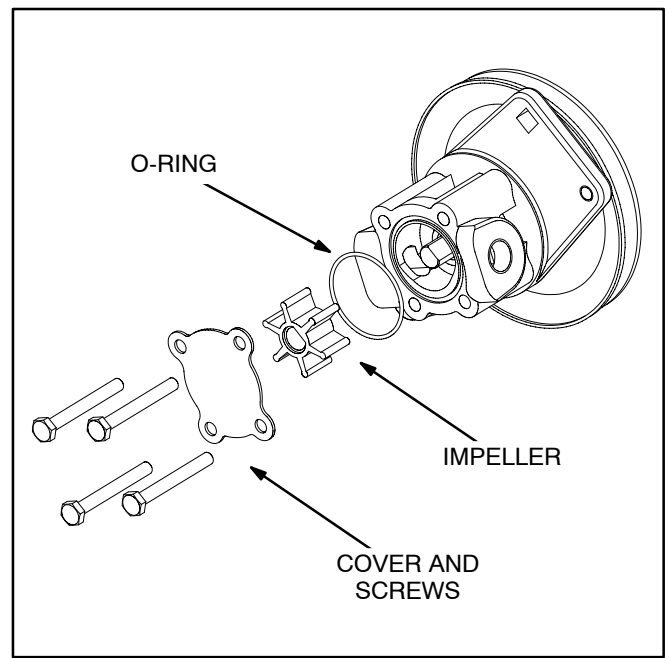

FIGURE 4-9. REPLACING THE IMPELLER
6. Remove the 4 pump cover screws (Figure 4-9) and remove the impeller and O-ring. Use two pliers to grip vanes on opposite sides if the impeller is difficult to remove. *It will be necessary to check for and cleanout pieces of the impeller from the heat exchanger and exhaust elbow if vanes have broken off.*